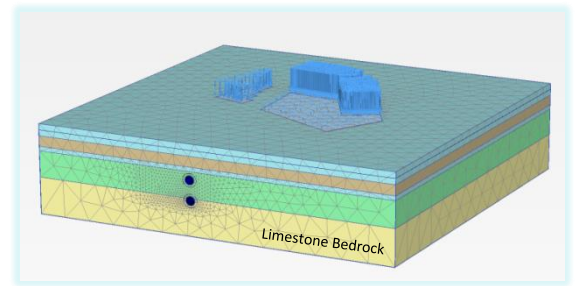

Figure 3a: Deep Bedrock Condition
Due to the varying bedrock levels encountered based on preliminary Subsurface Investigation (SI) information, two cases corresponding to Deep Bedrock condition (Bedrock assumed at 35.5m below existing ground level, EGL) and Shallow Bedrock condition (Bedrock assumed at 10m below EGL) were assessed in the 3D analysis (Figures 3a & 3b).